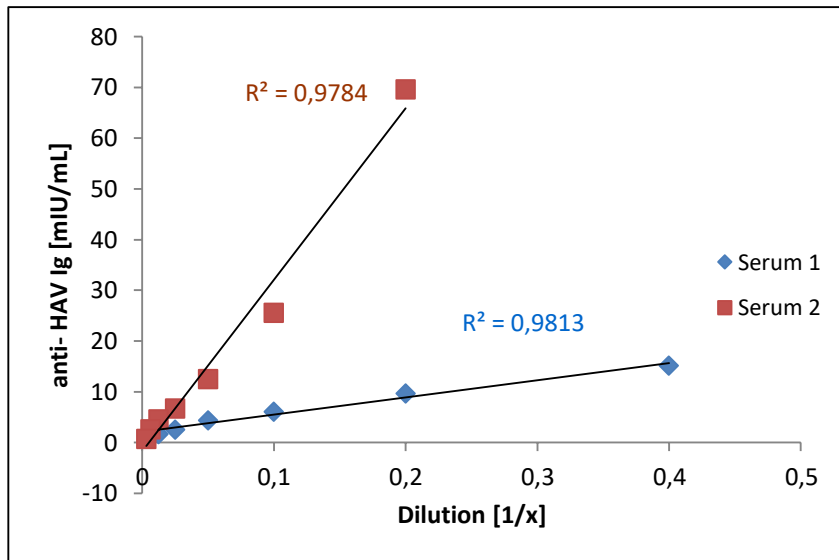

Figure 3 Linearity of the sample dilution.
The linearity of the assay was exemplary by the dilution of two human sera with high anti-HAV antibody titer. The dilution of the samples was carried out until 1:10 in Dilution Buffer (VP) and for all dilutions > 1:10 in Dilution Buffer + 10 % anti -HAV antibody negative serum (VPN). In Figure 3 the dilutions of 1: 2.5 to 1:80 for serum 1 and 1:5 to 1:320 for serum 2 are shown. By means of linear regression can be shown, that the linearity of the test system is very high.